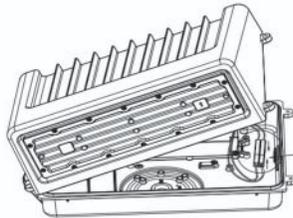

Fig. 1-5A
5. Connect the quick connect terminal, then screw the fixture with bottom plate. (Fig. 1-5A&B)